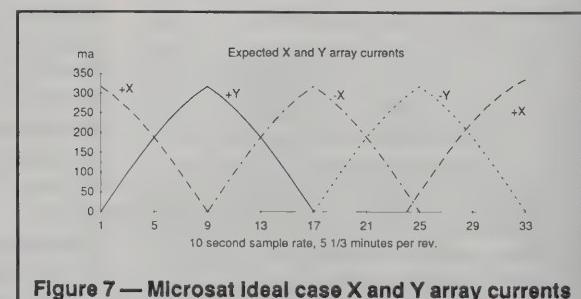

Figure 7 — Microsat ideal case X and Y array currents
The spacecraft spin rate can be easily determined by examining array currents. The best way to do this is to plot them with a computer. See Figure 7 for an example of an ideal case. Note that the vertical (Y) axis of the graph is current and the horizontal (X) is time. Points on the X axis are 10 seconds apart. With nominal conditions we expect each of the side panels to rotate into the sun and out again as the spacecraft spins around the Z axis. A plot of the X and Y surface array currents will show the current from one surface start out at zero, slowly climb to a maximum, then drop to zero again, as it rotates into then out of the sun. As an example, let's assume the +X panel is fully in the sun. Its array current will be about 340 mA. This is the expected current with a sun angle of 22.5 degrees, the nominal angle of the sun to the orbit plane. No current will be generated by the other X panel because it is in full shadow on the 'back' side of the spacecraft. The Y panels also will not be generating current because they are parallel to the sun's rays. As the spacecraft rotates (counter clockwise as viewed from the +Z), the current from the +X panel will slowly drop and the +Y panel will start to generate current as it comes into the sun. When the spacecraft has rotated 45 degrees the +X and +Y panels will be receiving equal sun and be generating equal current. 45 degrees later only the +Y panel will be in sun and the +X current will drop to zero because it has passed into shadow. This pattern continues as the spacecraft rotates. To calculate the spin rate, count the number of seconds between the peaks of two successive panels and multiply by four.